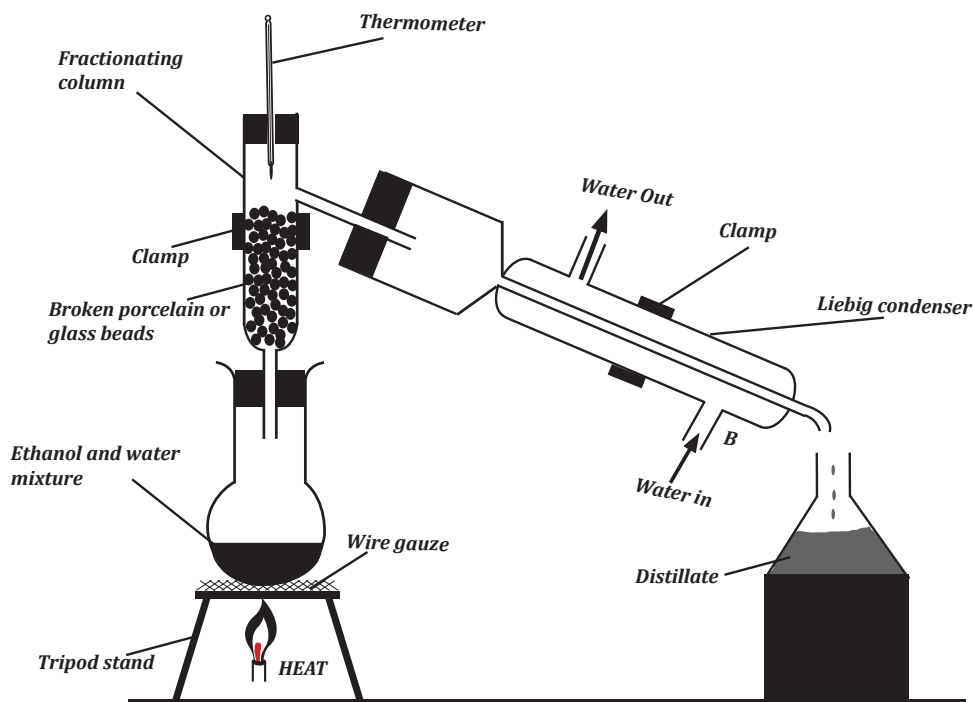

Figure 6.9; fractional distillation.
1. Set up the experiment as shown in figure 6.9